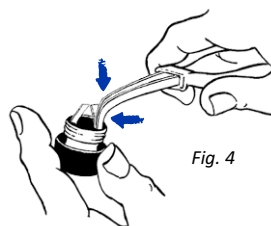

Fig. 4
1. **For reduction of the spring pressure** push slightly both leaves of spring together – see Fig. 4. Points of pliers must be inserted between the baton spring guide cap side and spring leaf.